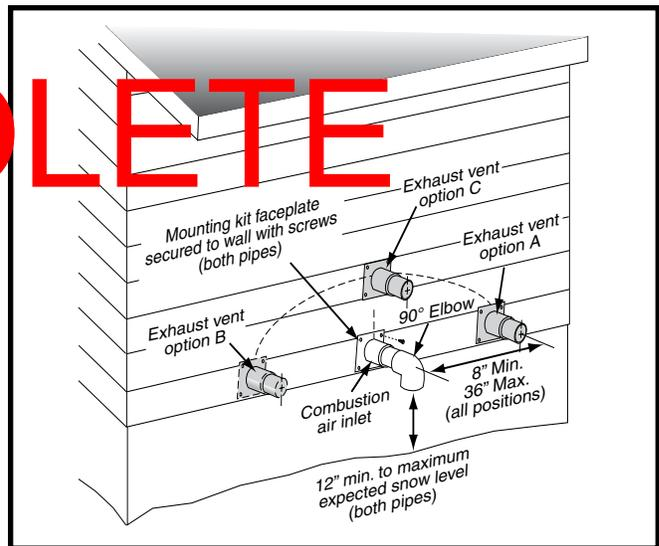
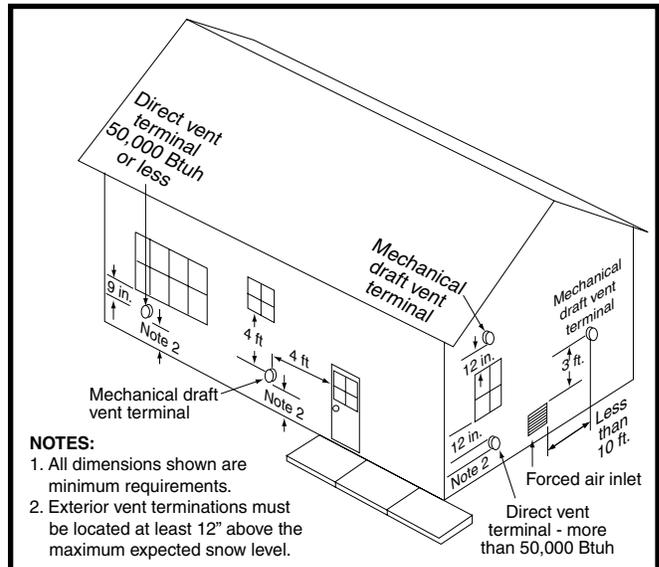

Figure 7. Inlet & Exhaust Pipe Clearances
Figure 8. Vent Locations
- Vent and combustion air intake terminations shall be installed as shown in Figure 7 & Figure 8 and in accordance with these instructions:
- All minimum clearances must be maintained to protect building materials from degradation by flue gases. See (Figure 8).
- When the vent pipe must exit an exterior wall close to the grade or expected snow level where it is not possible to obtain clearances shown in Figure 7, a riser may be provided as shown in Figure 9 (page 12). Insulation is required to prevent freezing of this section of pipe. See Table 3 (page 15) for vent freezing protection.